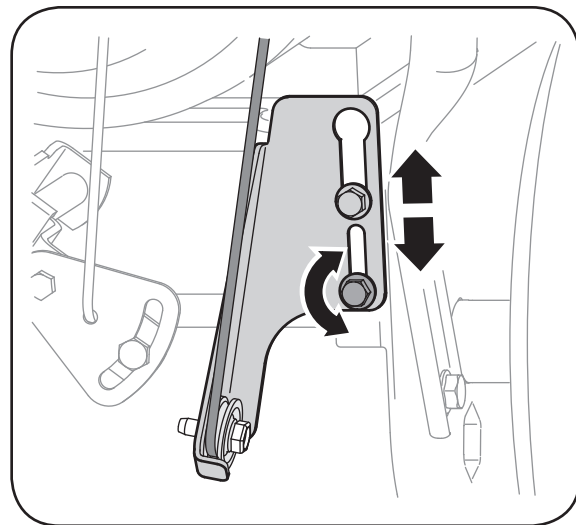

Figure 3
5. Loosen the lower hex nut on the drive cable bracket. See Figure 3.